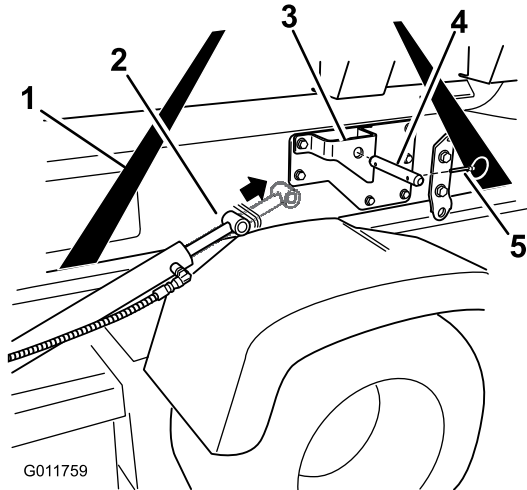

Figure 19
- Extend the lift cylinders to the brackets on the tank skid. Align the cylinder arms with the holes in the tank skid brackets (Figure 19).